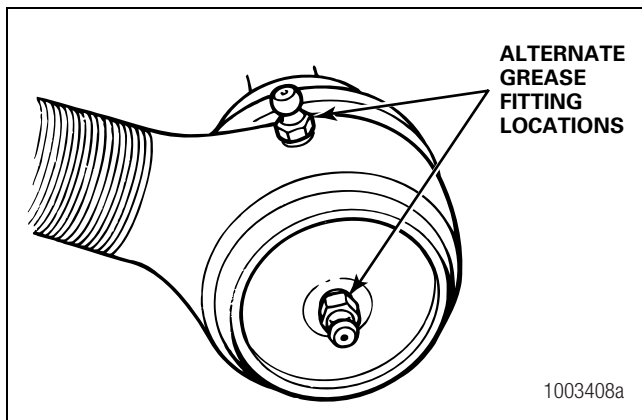

Figure 5.12
- **If the tie rod ends are non-greaseable:** Do not install a grease fitting if the tie rod end is the non-greaseable type. Figure 5.12.